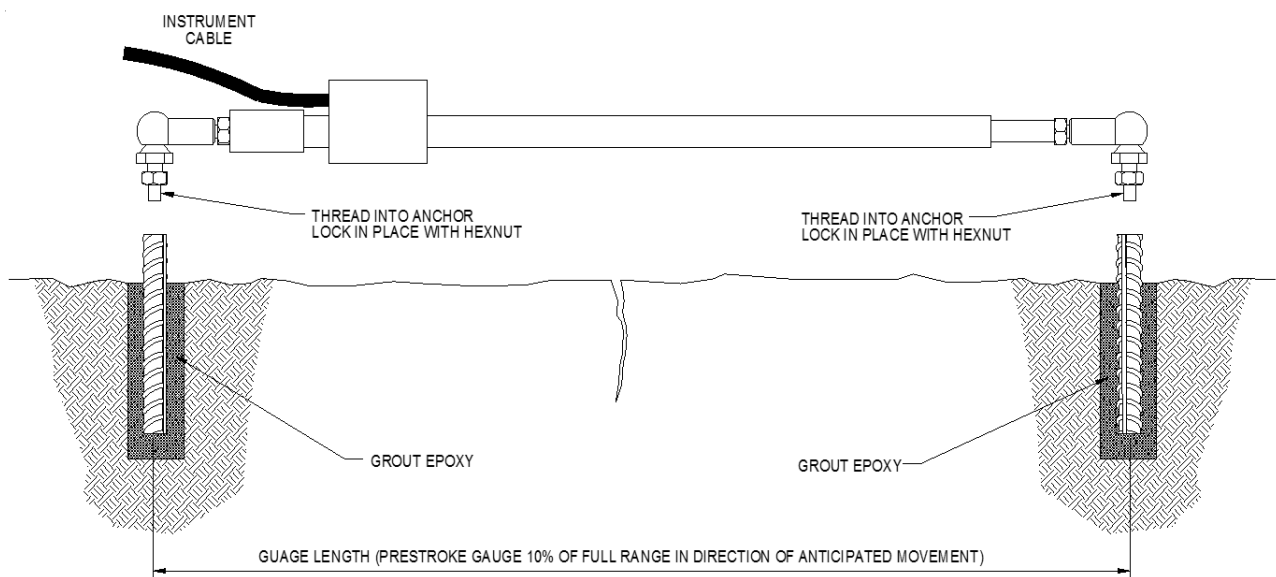

FIGURE 2-2 INSTALLING THE CRACK METER
- 4 Push the crack meter anchors into the holes until they are secure in the ground, as shown in Figure 2-2. Leave enough clearance to allow the crack meter to extend or contract.